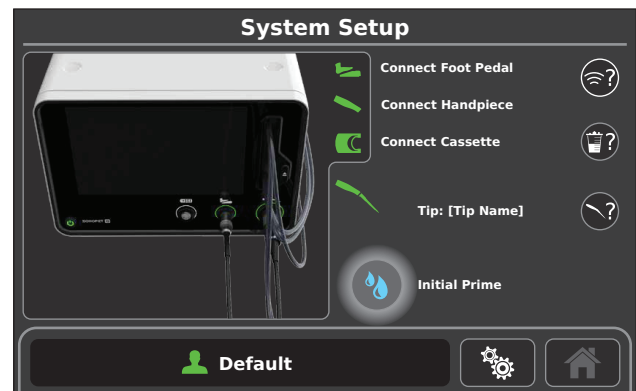

Figure 97 – INITIAL PRIME Button Prompt (pulsing)
1. From the SYSTEM SETUP screen, touch the INITIAL PRIME button (Figure 97).